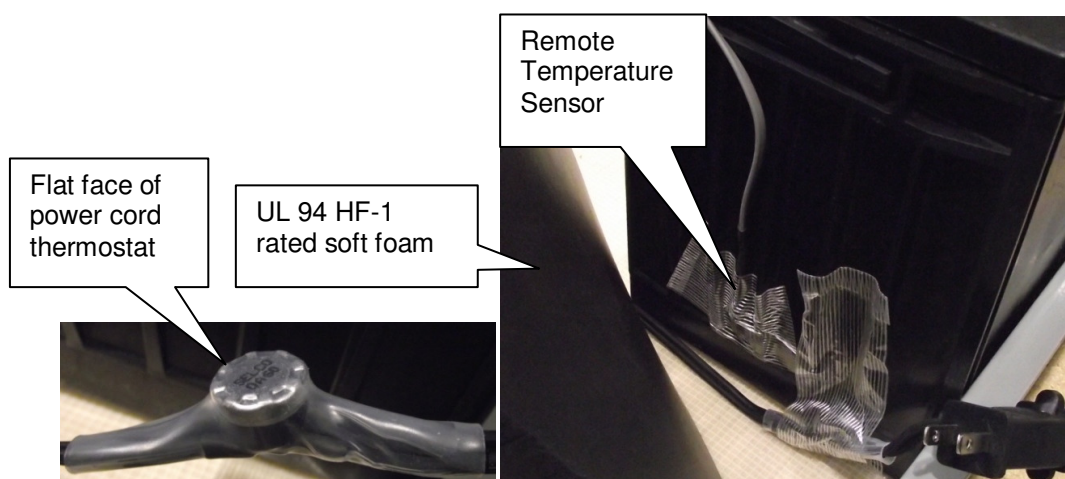

Figure 7 – Typical Power Cord Thermostat Relocation
- If batteries are placed in a separate/ 3rd party enclosure, or the power cord thermostat (Figure 3) is in the path of ventilation airflow, relocate the power cord thermostat and secure it on the battery's side between 2 batteries, approximately 1 to 2 inches above the BHM, with an extension cord to ensure proper BHM operation. The flat face of power cord thermostat must touch the battery side (Figure 7). Power cord thermostat may need to be insulated to meet battery temperature requirements listed under section Testing. For additional power cord thermostat relocation information, please consult Alpha Application Engineering.